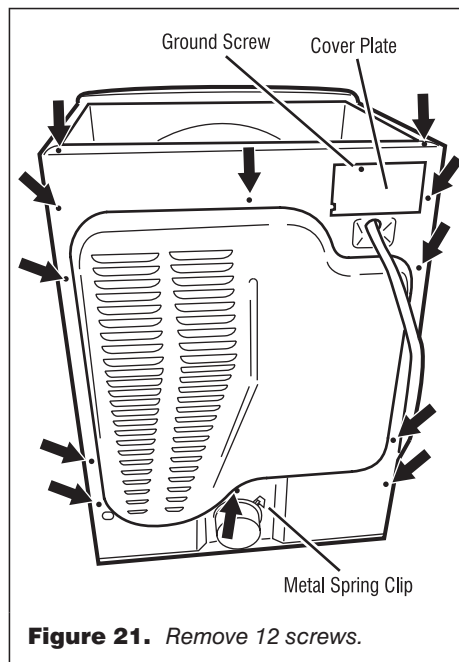

Figure 21. Remove 12 screws.
4. Remove the metal spring clip between the back panel and the exhaust outlet. See figure 21.